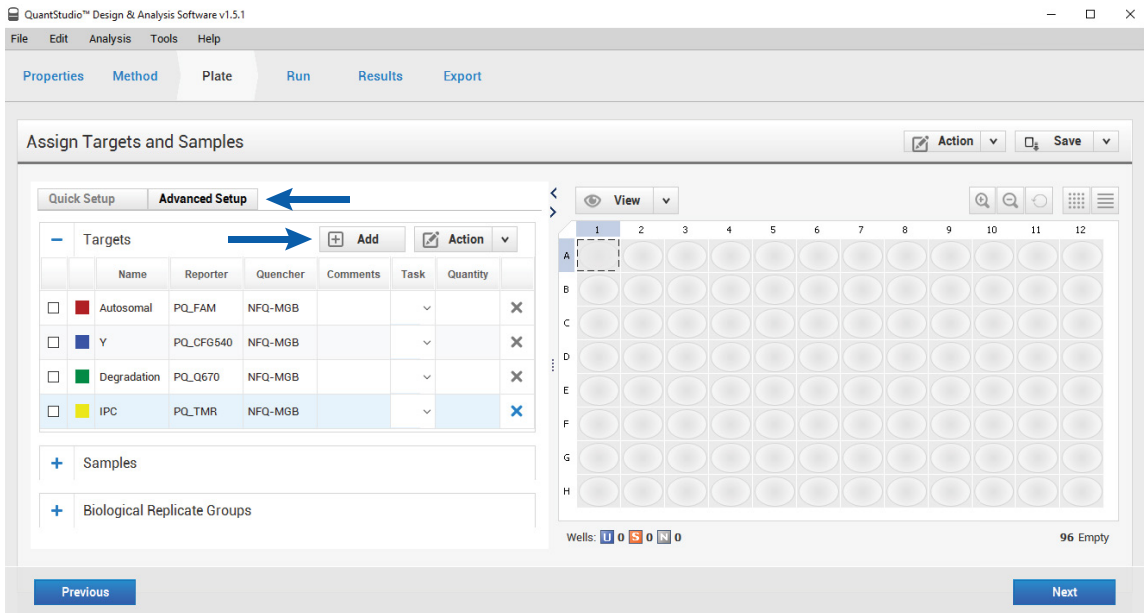

Figure 37. The 'Assign Targets and Samples' tab.
5. Enter the PowerQuant® targets in the Targets section of the 'Advanced Setup' tab in the Assign Targets and Samples section (Figure 37). Select **[+]** Add three additional times and enter the following target-specific information: